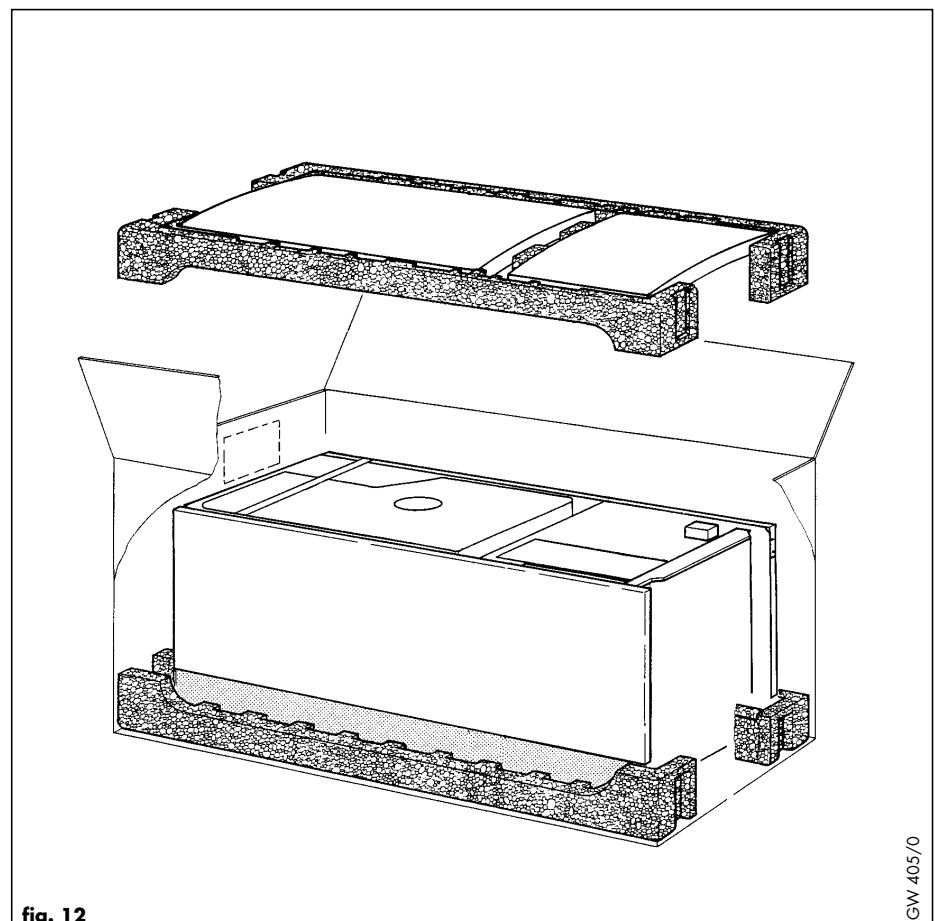

fig. 12
4.2.2 Unpack the boiler (fig. 12)